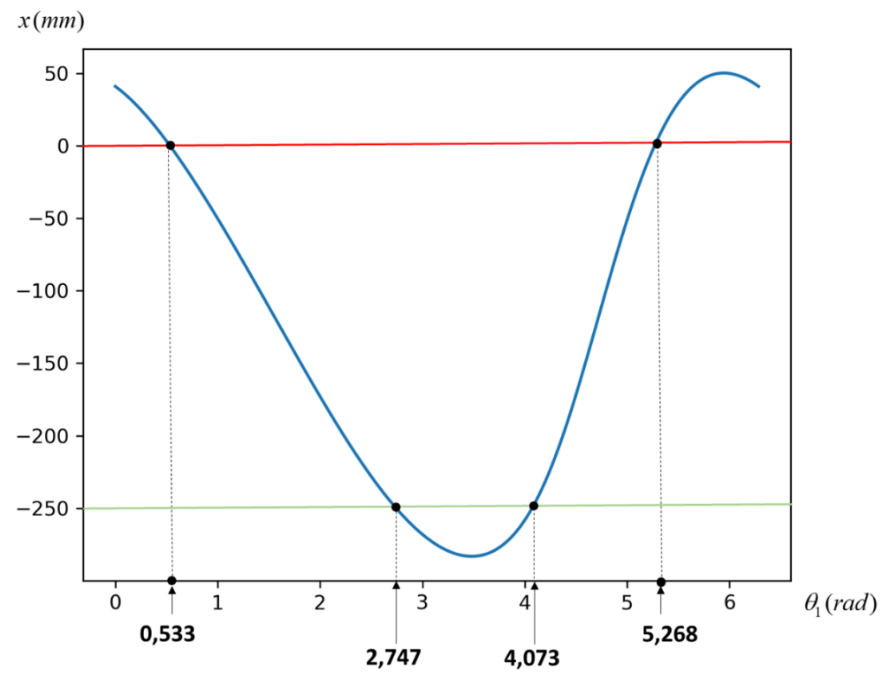

Figure 2 – Slider parameter x versus crankshaft angle θ_1
9. Figure 2 below shows the translation parameter x versus the crankshaft angle θ_1 obtained by numerical solution of one constraint equation using the following numerical data $L=500$ mm ; $e=120$ mm ; $r=100$ mm ; $b+d=500$ mm.
- Assuming that the crankshaft rotational speed $\omega_1 = \dot{\theta}_1$ is constant, explain how the mean speeds of the slider for the backward and forward strokes can be derived from the indications in Figure 2.